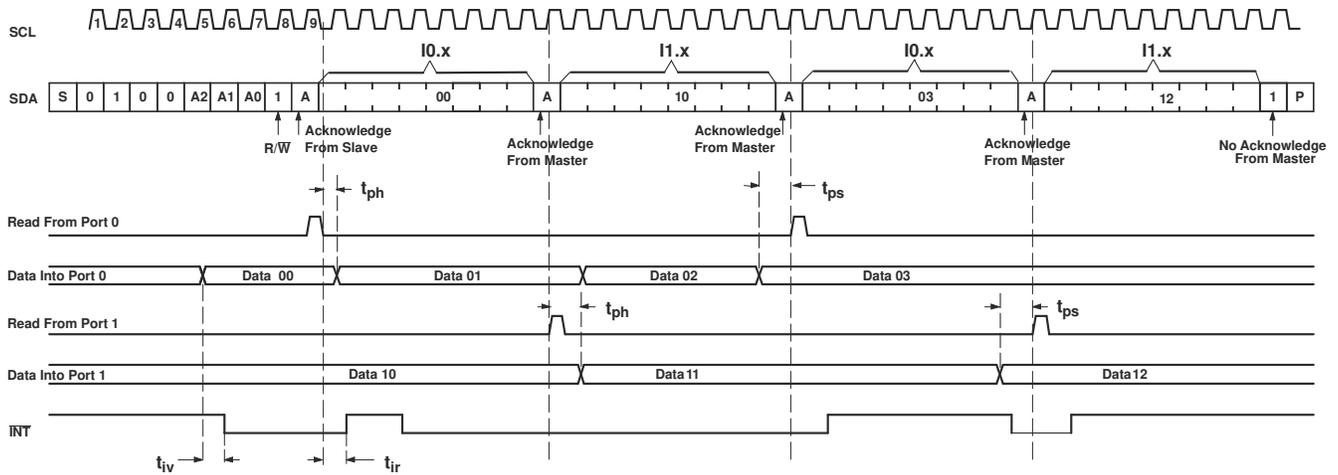

**Figure 8-10. Read From Register**
The bus master first must send the PCA9535 address with the least-significant bit set to a logic 0 (see Figure 8-6 for device address). The command byte is sent after the address and determines which register is accessed. After a restart, the device address is sent again, but this time, the least-significant bit is set to a logic 1. Data from the register defined by the command byte then is sent by the PCA9535 (see Figure 8-10 through Figure 8-12).
- B. This figure eliminates the command byte transfer, a restart, and slave address call between the initial slave address call and actual data transfer from P port (see Figure 8-10 for these details).